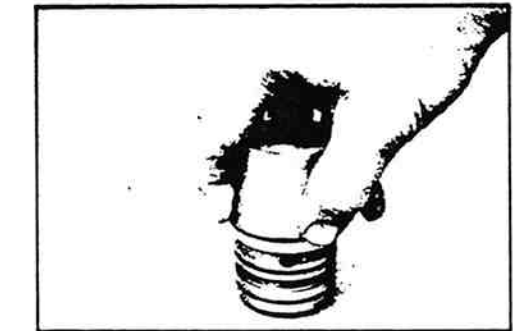
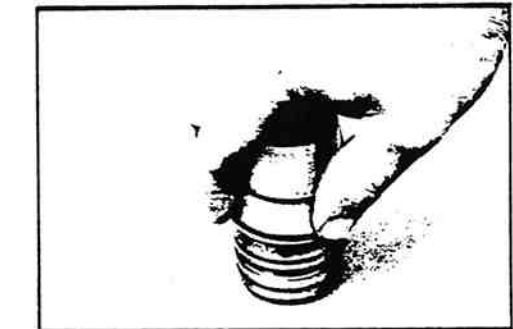

Figure 11-73. Installing O-rings.
Figure 11-74. Installing Seal Rings.
22. Grease the two new backup O-rings (7) and the two new Teflon seal rings (6). Using seal installation tool J26741, assemble the backup O-rings (figure 11-73), then the Teflon seal rings into the valve sleeve (5b) (figure 11-74).